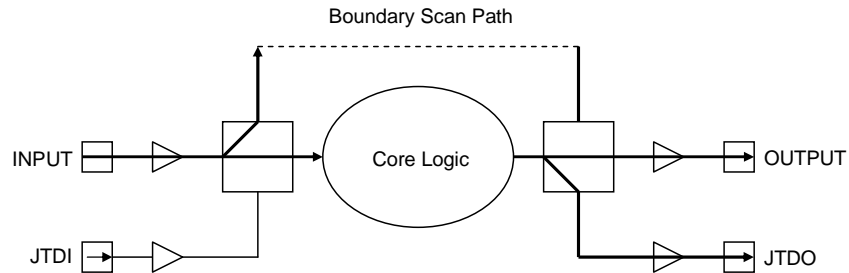

Figure 14.4.2 Test Data Flow While SAMPLE is Selected
- SAMPLE allows the input and output pads of an IC to be monitored. While it does so, it does not disconnect the system logic from the IC pins. The SAMPLE function occurs in the Capture-DR controller state. The SAMPLE instruction can read the value of the I/O pins of IC on the rising edge of JTCK. The flow of data for the SAMPLE phase of the SAMPLE/PRELOAD instruction is shown in Figure 14.4.2.